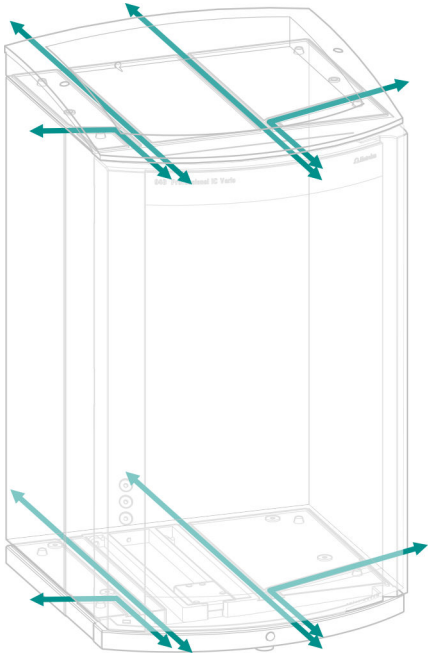

Figure 5 Ducts for capillaries
- Ducts between the instrument and the base tray as well as between the instrument and the bottle holder (see *Figure 5, page 13*)